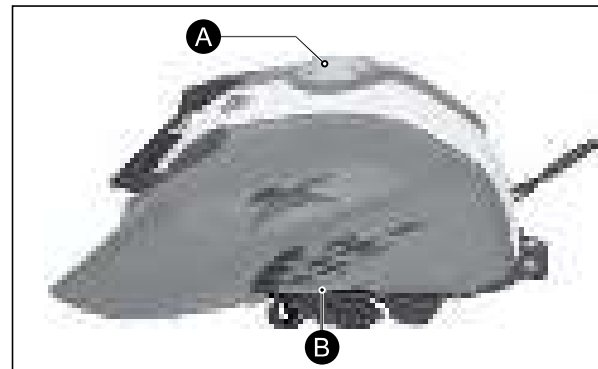

Fig. 4.8
- The fuel tank complete is located on frame tube near the steering pivot with a lockable cap assembly fuel tank (A) and fuel filter with hose injector (B) at the bottom left side of the tank. (Fig. 4.8)